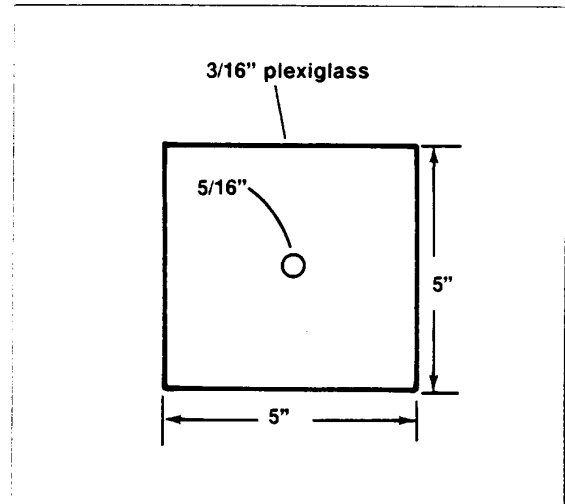

Figure 4. CC Plate
- CC PLATE Can be purchased from any hot rod shop or can be made out of $3/16$ " plexiglass $5" \times 5"$ with a $5/16$ " hole drilled through the center as shown in Figure 4.